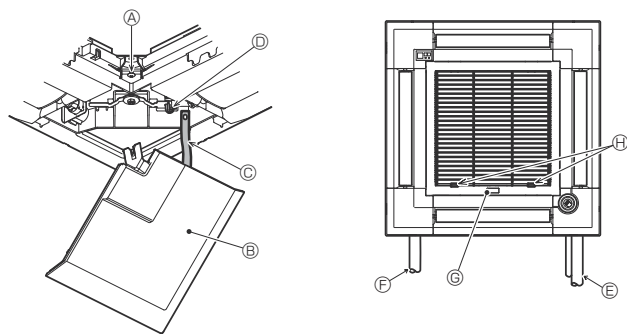

Fig. 6-12
6.5. Installing the intake grille (Fig. 6-12)